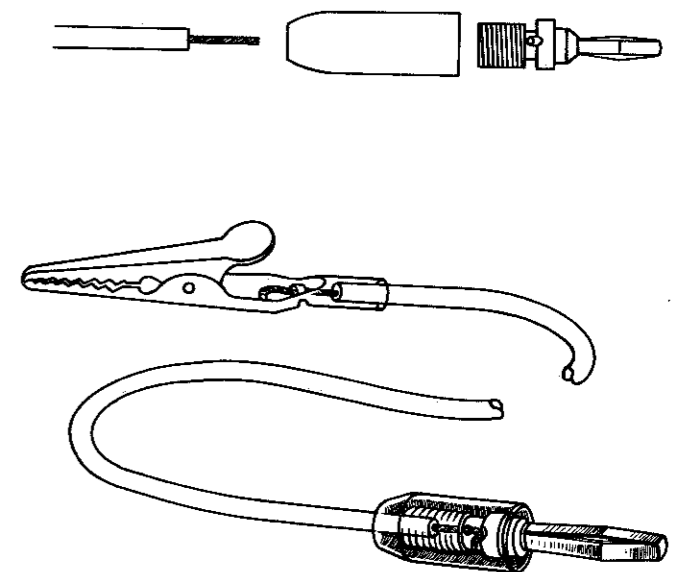

FIG. 27. Assembling the test leads.
- Assemble the black test lead as shown in Fig. 27. First, strip about half an inch of insulation from each end of the black test lead wire. Insert one end in the alligator clip. Push it in far enough so that the end of the insulation is covered by the end of the clip. Push the bare end of the wire under the small loop in the clip, and solder it in place. Twist the wires at the other end of the lead tightly together and tin them. Be careful not to use too much solder. Unscrew the black insulator from the black banana plug. Slip the lead through the hole in the side of the plug. Wrap the bare end around the plug in a clockwise direction when the top of the plug is away from you; then push the insulator down over the threaded part, and screw it tightly in place. This will hold the wire without solder.